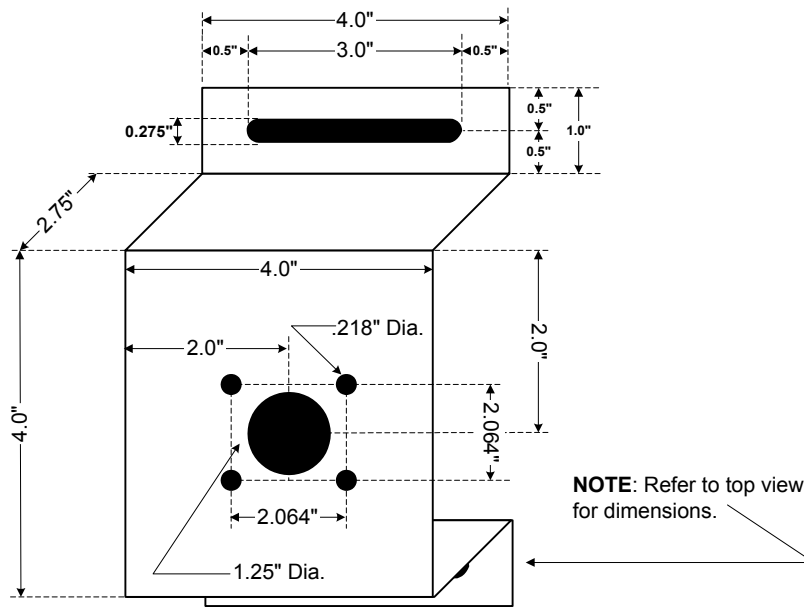

Figure 1
7. Install the digital encoder to the machine room tape sheave. A bracket may be fabricated like that shown in Figure 1 below. The encoder will be mounted on the outside of the bracket with the gear facing in toward the side of the tape sheave assembly.